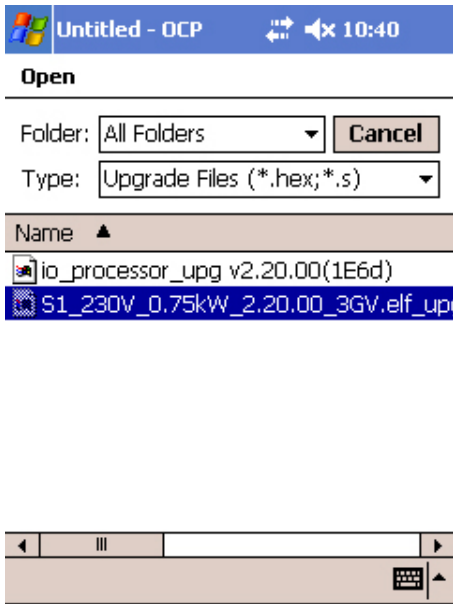

Figure 4
7. Select the appropriate file for upgrade depending and drive type and rating as defined previously. For this example *S1_230V_0.75kW_3GV_2.20.00.elf_upg.s* as shown in Figure 4.